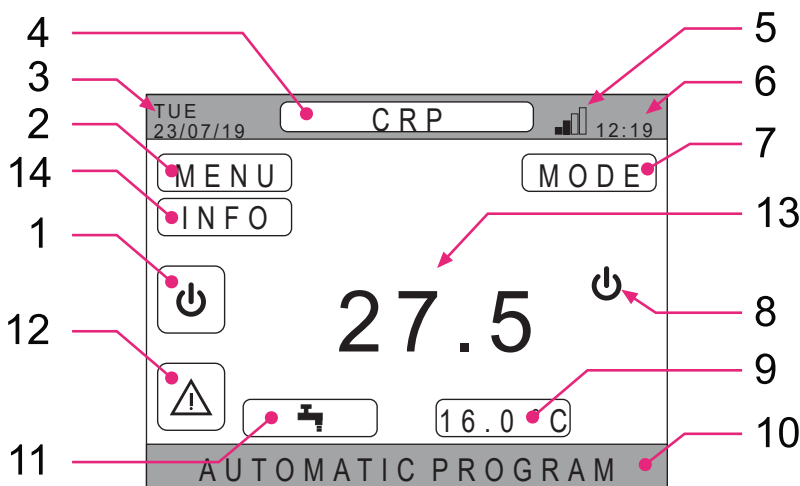

fig. 21 - Main screen
Press the ✓ button in the “System” active area (ref. 1 - fig. 21) to access the menu for changing the system operating mode and activate or deactivate “DHW production” (DHW menu).
Press the ✓ button in the “MENU” active area (ref. 2 - fig. 21) to view some system information and to change some of its settings.
By repeatedly pressing the button ✓ in the active area "**Selected zone/Zone change**" (ref. 4 - fig. 21) it is possible to go to the zone to monitor or change the settings. The change occurs cyclically in all the configured zones.